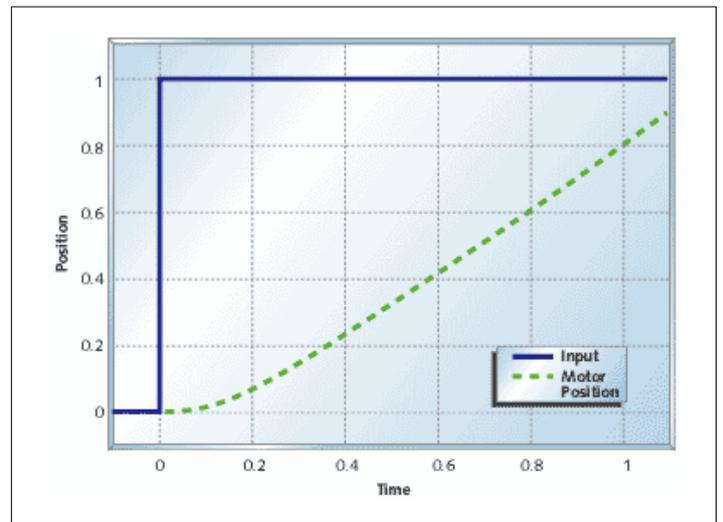

Figure 3
**Figure 3** shows the step response of the motor and gear combination. I'm using a time constant value of  $t_0 = 0.2s$ . The step response of a system is just the behaviour of the output in response to an input that goes from zero to some constant value at time  $t = 0$ . Since we're dealing with fairly generic examples here I've shown the step response as a fraction of full scale, so it goes to 1. Figure 3 shows the step input and the motor response. The response of the motor starts out slowly due to the time constant, but once that is out of the way the motor position ramps at a constant velocity.